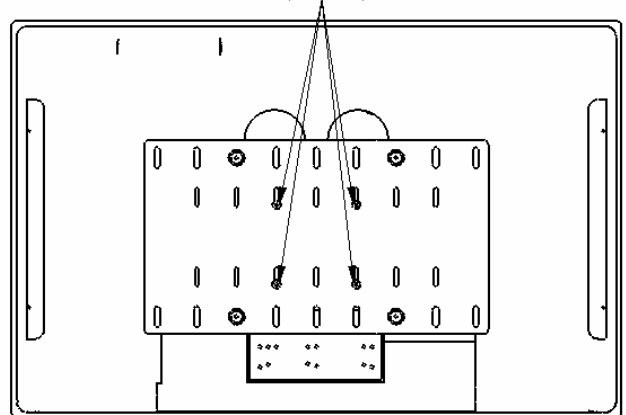

Figure 5. Display with 100mm x 100mm Hole Pattern
2. Attach the MSP-DELMsBV (10) using the hole-pattern on the back of your display as shown in Figure 5.